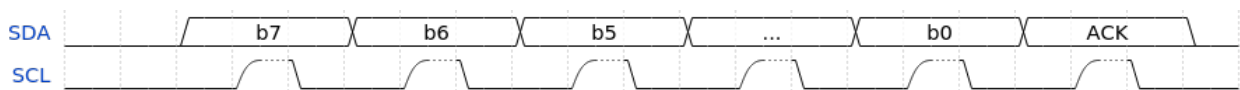

Figure 4: I2C write byte
If the read/write bit of the transaction start is 1 then the master will execute a sequence of writes. Each read consists of the master driving the clock whilst and also driving the data for 8-bits (most significant bit first). At the end of each byte, the slave drives another clock pulse and will either drive either an ACK (0) (signalling that it can accept more data) or a NACK (1) (signalling that it cannot accept more data) on the data line. After the ACK/NACK signal, the master can complete the transaction with a stop bit or repeated start. A write byte sequence is shown in Figure 4